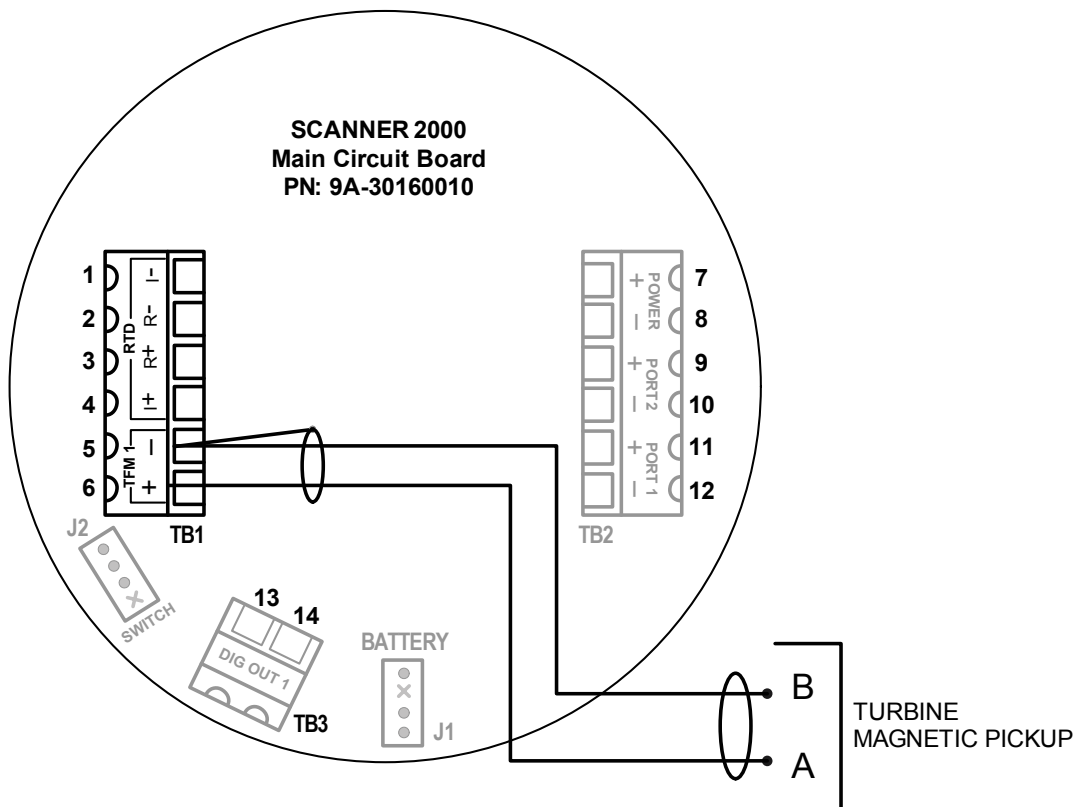

Figure 3.4—Flowmeter input wiring
6. Connect the flowmeter input wiring to terminal block TB2, if appropriate. See Figure 3.4, page 65.
The Turbine Input 1 on the main circuit board provides the turbine flowmeter input signal generated by a magnetic pickup, enabling the Scanner 2000 to calculate and display instantaneous flow rates and accumulated totals. Wire as shown in Figure 3.4.